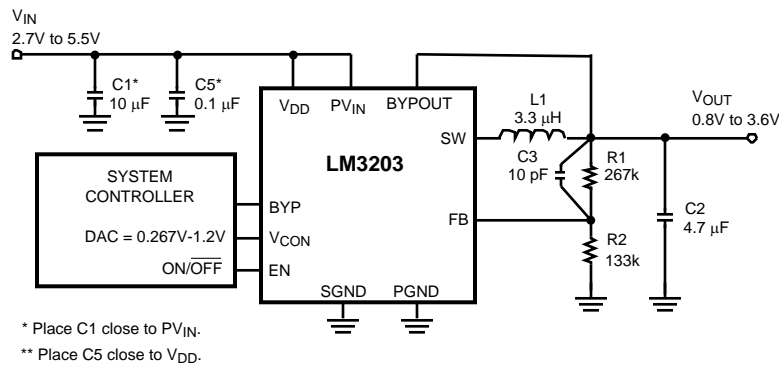

Figure 31. Typical Operating System Circuit where baseband controls the output voltage using a DAC
- (1) All voltages are with respect to the potential at the GND pins.
- (2) Min and Max limits are specified by design, test, or statistical analysis. Typical numbers are not ensured, but do represent the most likely norm.
- (3) The LM3203 is designed for mobile phone applications where turn-on after power-up is controlled by the system controller and where requirements for a small package size overrule increased die size for internal Under Voltage Lock-Out (UVLO) circuitry. Thus, it should be kept in shutdown by holding the EN pin low until the input voltage exceeds 2.7V.
- (4) Over-Voltage protection (OVP) threshold is the voltage above the nominal V_{OUT} where the OVP comparator turns off the PFET switch while in PWM mode. The OVP threshold will be the value of the threshold at the FB voltage times the resistor divider ratio. In the Figure 31, $100\text{mV (typ.)} \times ((267\text{K} + 133\text{K}) \div 133\text{K})$.
- (5) Shutdown current includes leakage current of PFET and Bypass FET.
- (6) Electrical Characteristics table reflects open loop data ($FB=0\text{V}$ and current drawn from SW pin ramped up until cycle by cycle current limit is activated). Refer to Typical Performance Characteristics (Open/Closed Loop Current Limit vs Temperature (PWM Mode) curve) for closed loop data and its variation with regards to supply voltage and temperature. Closed loop current limit is the peak inductor current measured in the application circuit by increasing output current until output voltage drops by 10%.
- (7) Bypass FET current limit is defined as the load current at which the FB voltage is 1V lower than V_{IN} .
(Circuit in Figure 31, $PV_{IN} = V_{DD} = EN = 3.6V$, $BYP = 0V$, $T_A = 25^\circ C$, unless otherwise noted)
(Circuit in Figure 31, $V_{IN} = V_{DD} = EN = 3.6V$, $BYP = 0V$, $T_A = 25^\circ C$, unless otherwise noted)
Referring to Figure 31, the LM3203 operates as follows. During the first part of each switching cycle, the control block in the LM3203 turns on the internal PFET (P-channel MOSFET) switch. This allows current to flow from the input through the inductor to the output filter capacitor and load. The inductor limits the current to a ramp with a slope of around $(V_{IN} - V_{OUT}) / L$, by storing energy in a magnetic field. During the second part of each cycle, the controller turns the PFET switch off, blocking current flow from the input, and then turns the NFET (N-channel MOSFET) synchronous rectifier on. In response, the inductor's magnetic field collapses, generating a voltage that forces current from ground through the synchronous rectifier to the output filter capacitor and load. As the stored energy is transferred back into the circuit and depleted, the inductor current ramps down with a slope around V_{OUT} / L . The output filter capacitor stores charge when the inductor current is going high, and releases it when inductor current is going low, smoothing the voltage across the load.
The LM3203 features a pin-controlled variable feedback voltage. It can be programmed for an output voltage from 0.8V to 3.6V by setting the voltage on the V_{CON} pin, as in the formula below (Refer to Figure 31). In this scheme the output voltage is directly proportional to V_{CON} .
When V_{CON} is between 0.267V and 1.20V, the output voltage will follow the above equation. For example, the V_{OUT} is proportionally 3 times of V_{CON} when external resistor dividers are used as in Figure 31.